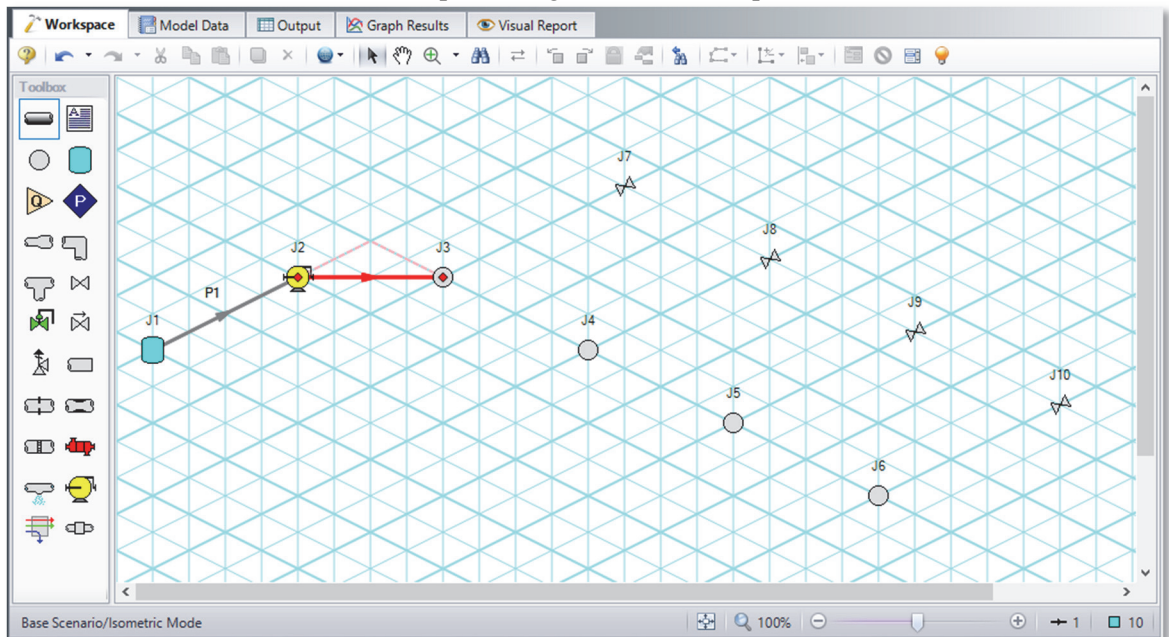

Figure 3.20 A preview line shows when drawing or adjusting pipes
6. Draw P1, as shown in Figure 3.20.
7. Draw P2 from J2 to J3. A red-dashed preview line will show how the pipe will be drawn on the isometric grid. As you are drawing a pipe, you can change the preview line by clicking any arrow key on your keyboard or scrolling the scroll wheel on your mouse. Figure 3.20 shows Pipe 2 being drawn with the preview line.